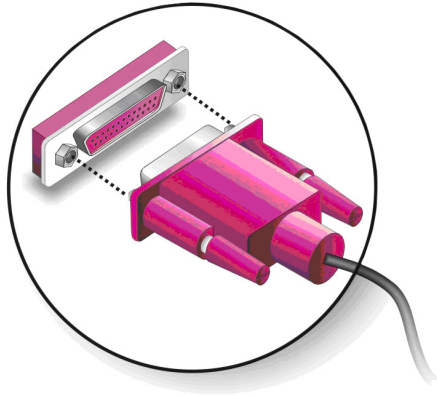

Figure 5-21: Connect the LPT Device
Step 5: Connect LPT device. Once the LPT interface connector is connected to the chassis, the LPT device can be connected to the LPT interface connector. See **Figure 5-21**